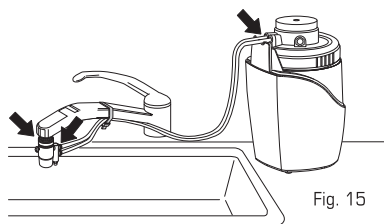

Fig. 15
8. **Check** for any signs of leakage at the Diverter and at all tubing connections (Fig 15). If there is leaking or bubbling, refer to Troubleshooting, p. 7.